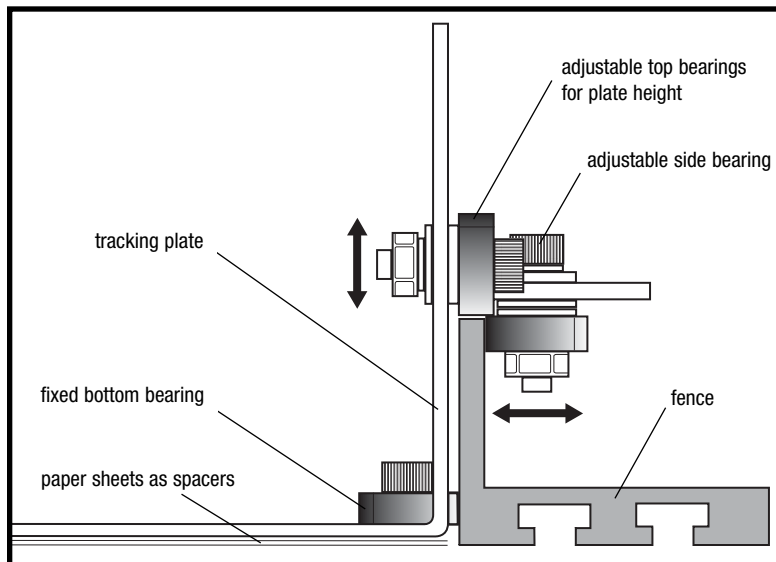

fig. 2 - Adjusting the Bearing
**Check the Tracking System** (see fig. 2)